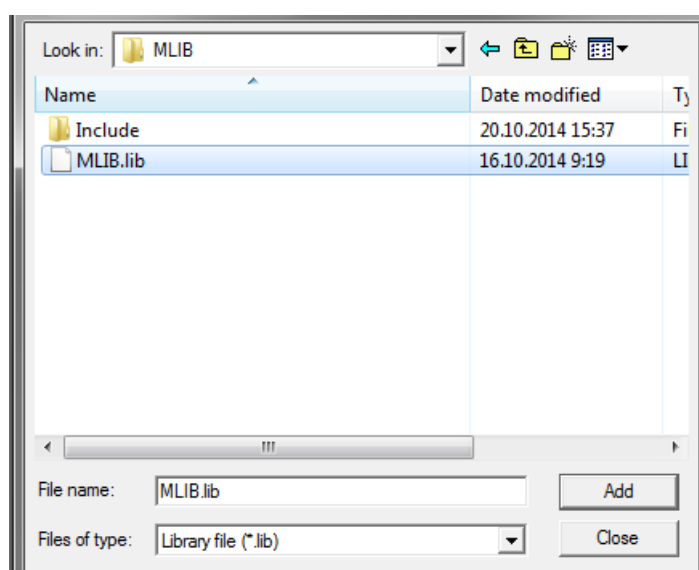

Figure 1-32. Adding .lib files dialog
5. Navigate to the parent folder C:\NXP\RTCESL\CM0_RTCESL_4.6_KEIL\MLIB, and select the *mlib.lib* file. If the file does not appear, set the Files of type filter to Library file. Click Add. See Figure 1-32.